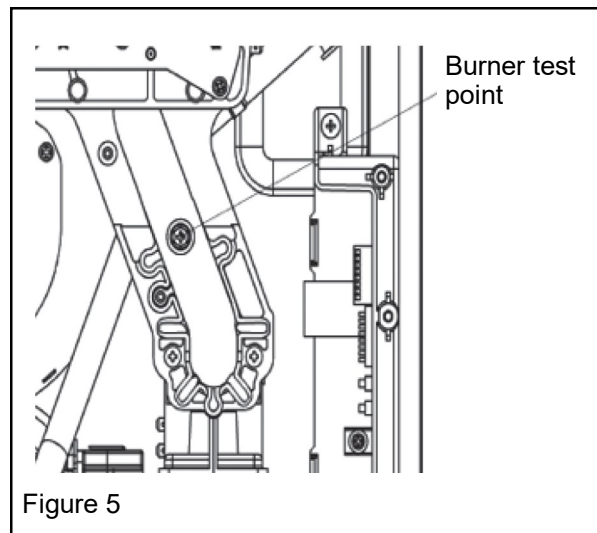

Figure 5
4. Remove the screw and attach a manometer to the burner test point located on the gas control (Figure 5).